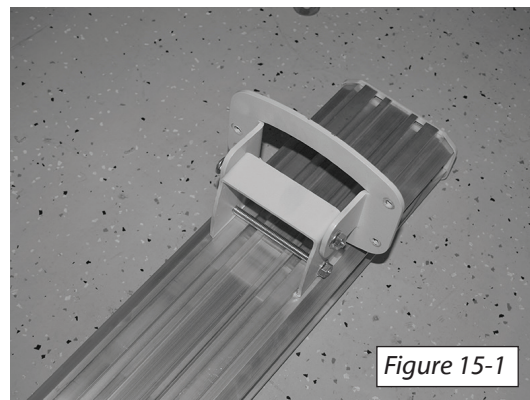

Figure 15-1
5. Slide rail mounting brackets onto rail to the approximate locations shown [Figure 15-1 and 15-2]. Exact positions of brackets will be determined later.